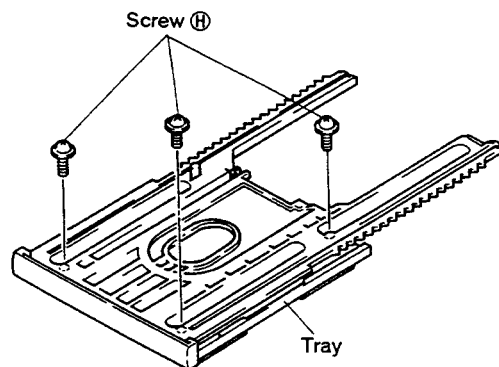

Fig. 2-14
- (3) As shown in Fig. 2-14, turn over the tray, and put three screws (H) on it.